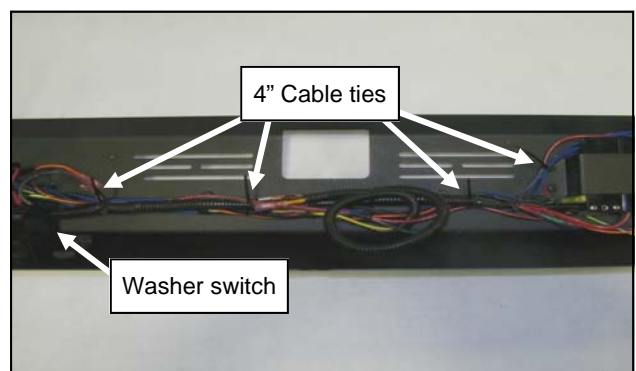

Fig. 3.6
- 3.6 Secure the wires between the fuse block and washer switch to the rest of the wires in the console with 4" cable ties. See figure 3.6.